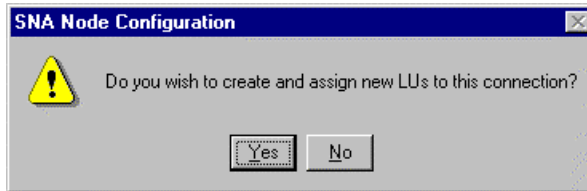

Figure 7-24. Automatic LU Generation for New Connection
5. You will now be prompted to create new LUs for this connection (Figure 7-24). Click **Yes** to create a range of LUs for your new host link.